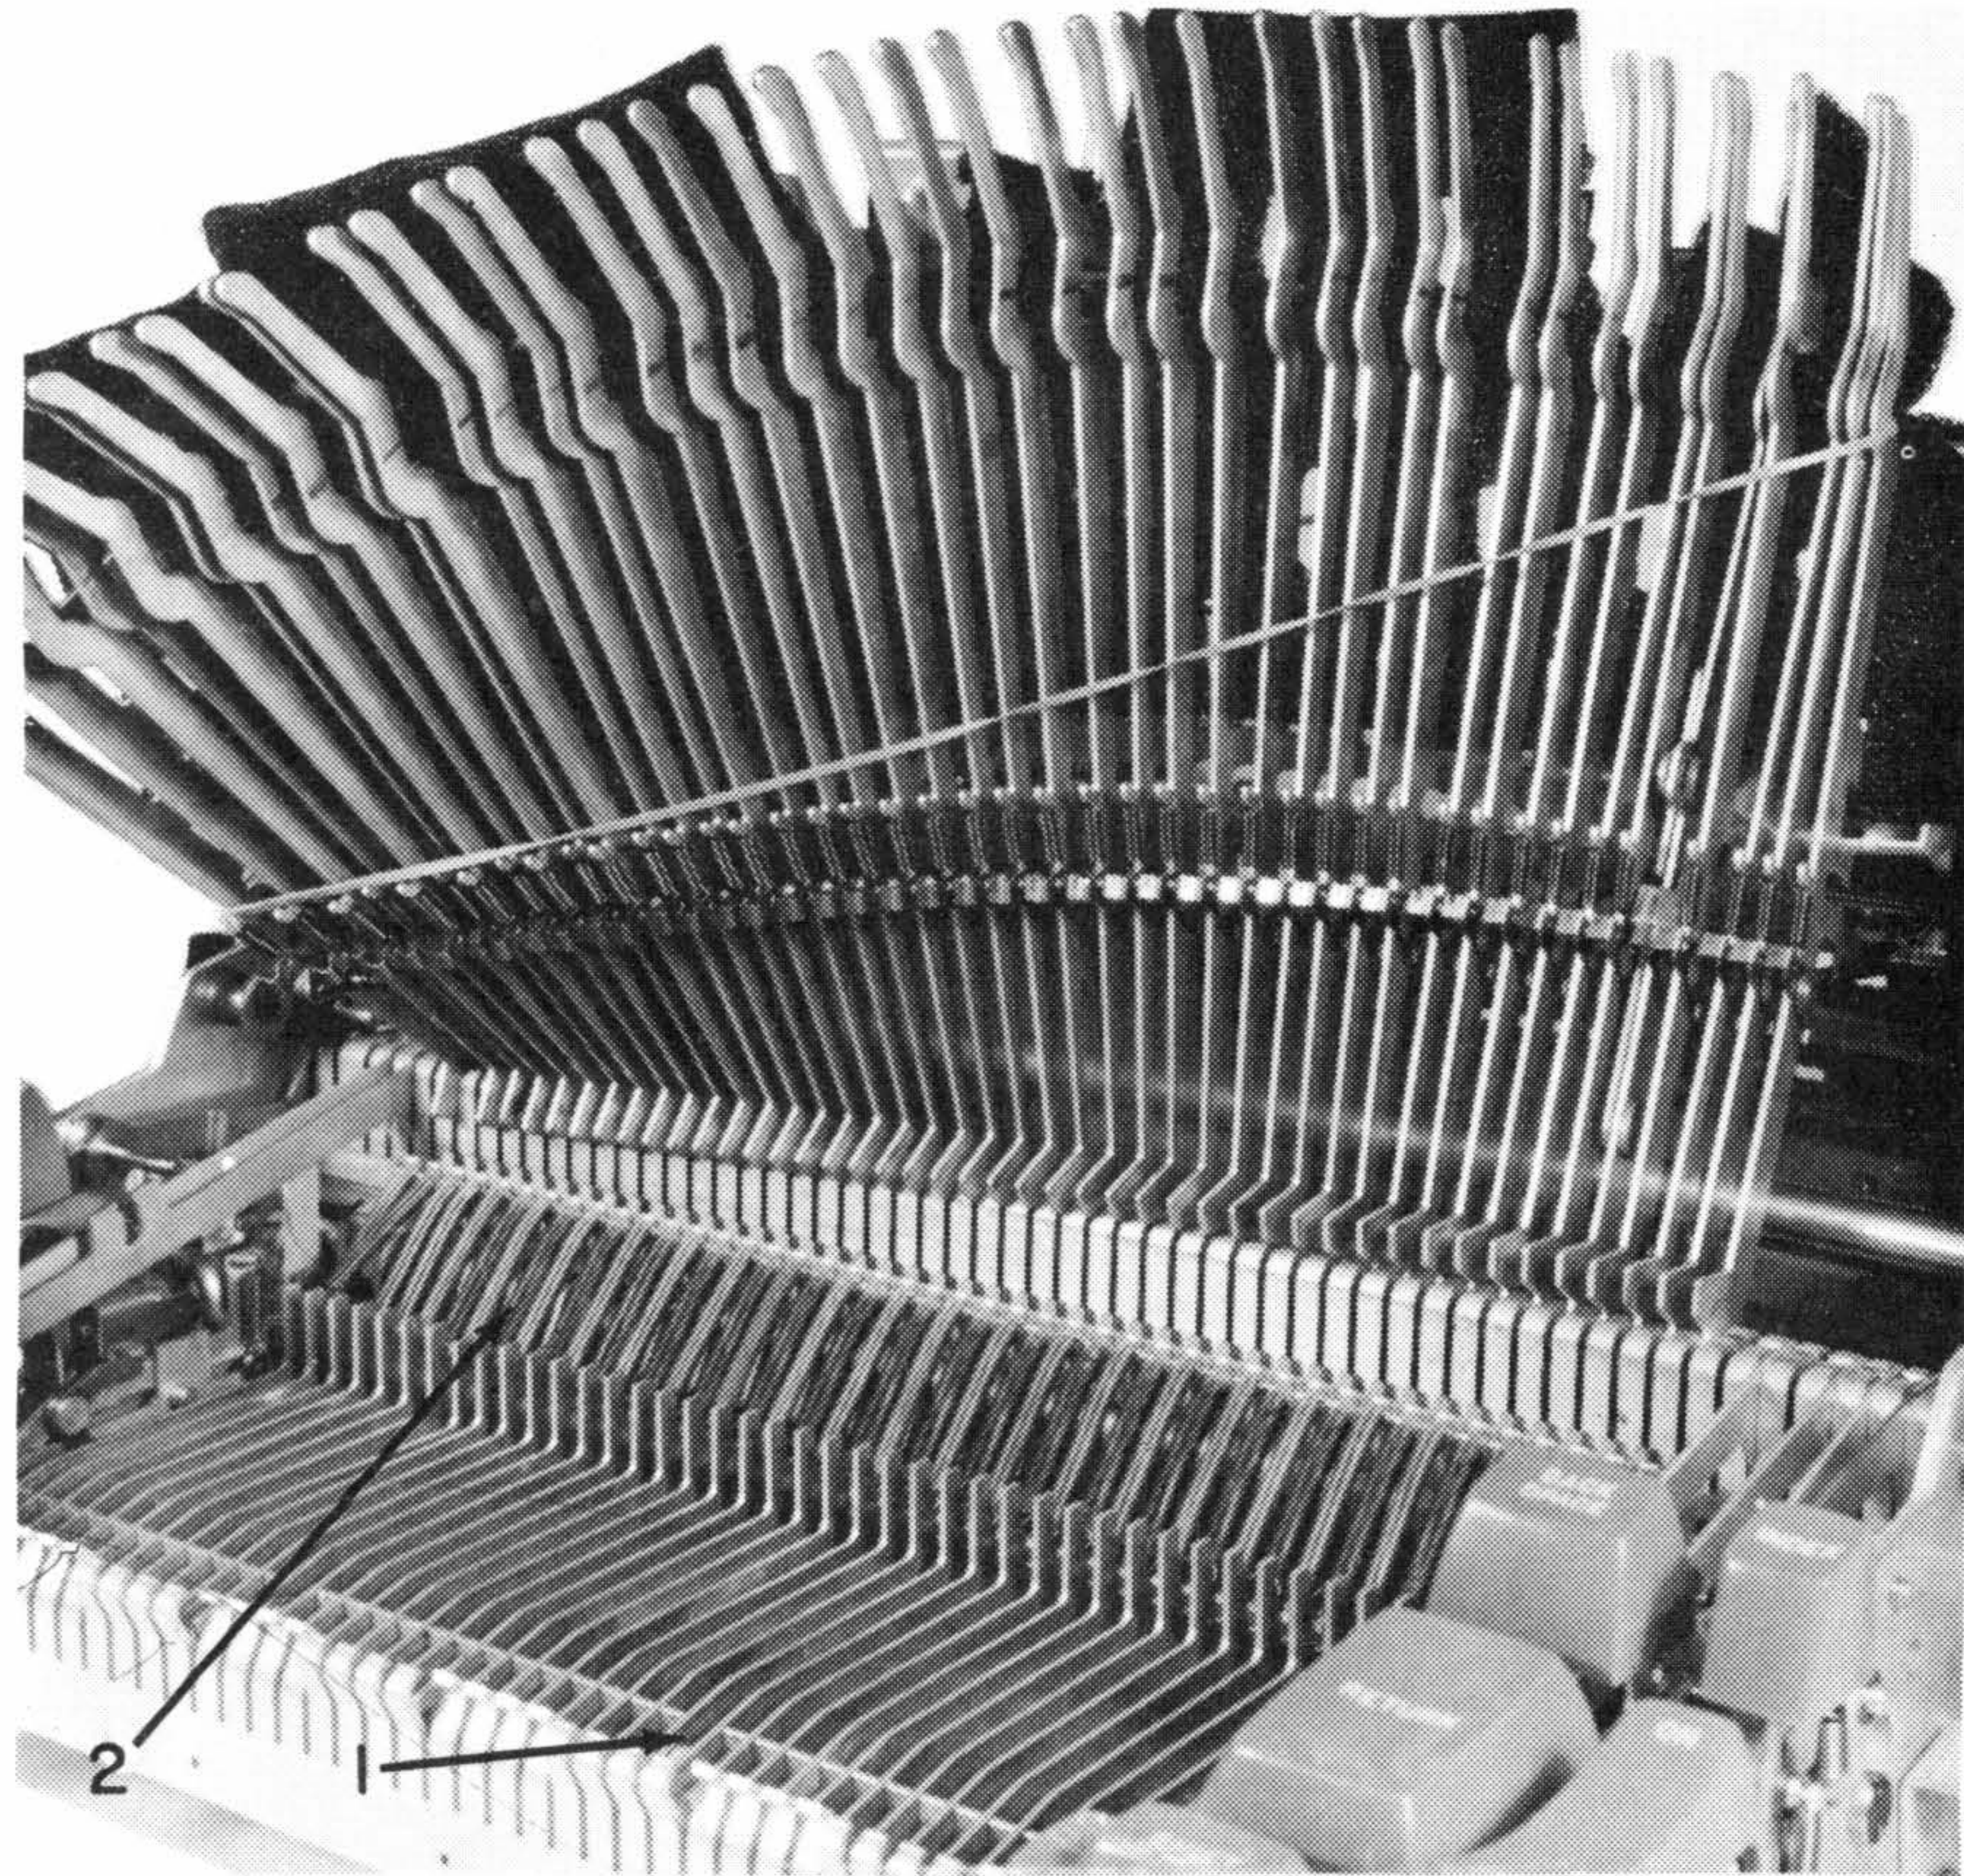

Figure 56. Interposer Removal
9. Push the fulcrum rod to the interposer being removed with a fulcrum rod tool (#1, Figure 56).
10. Remove the spring from the interposer being removed (#2, Figure 56).